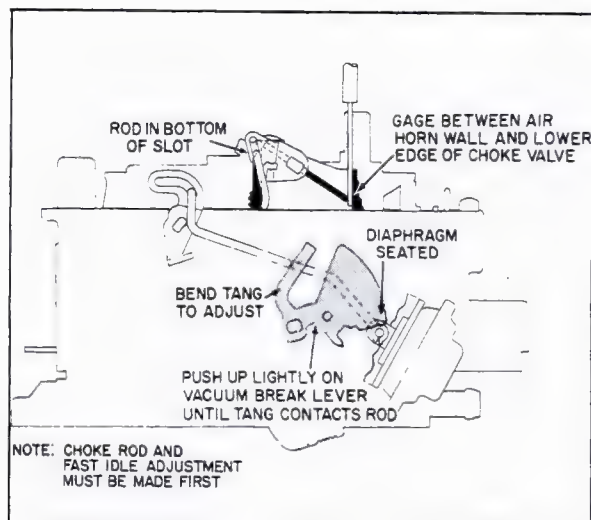

Fig. 6-81 Vacuum Break Adjustment
#### 84. Vacuum Break Adjustment (Fig. 6-81)
4. Bend vacuum lever tang, Fig. 6-81, to adjust.